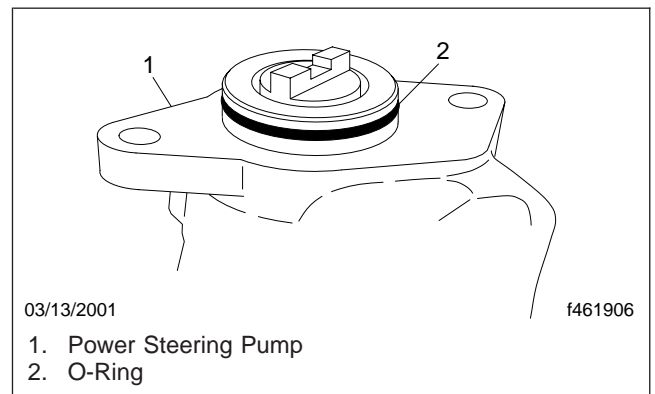

Fig. 2, O-Ring Installation
6. Lubricate the new O-ring with a light coating of power steering fluid, and install it in the pilot diameter of the power steering pump. See Fig. 2.